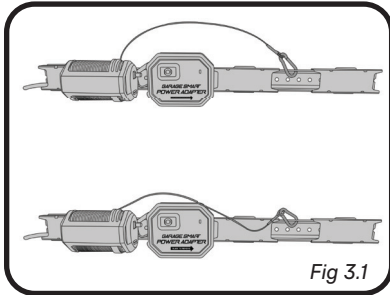
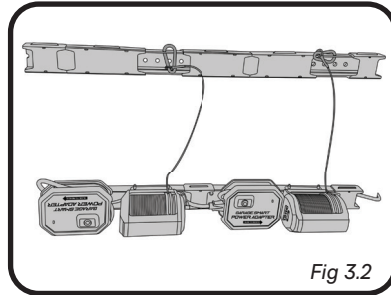

Fig 3.1
Fig 3.2
1. For each MyLifter you've installed on the Smart Track, determine where the Power Adapter should be installed. The preferred location, if possible, is adjacent to the MyLifter. (fig 3.1 and fig 3.2)